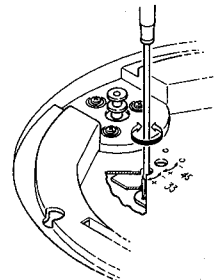

FIG. 18
■ **To Adjust Motor Speed (Refer to Fig. 18)**
In this case, remove turntable and turn VR1 or VR2 from on the motor board, as shown in Fig. 18.